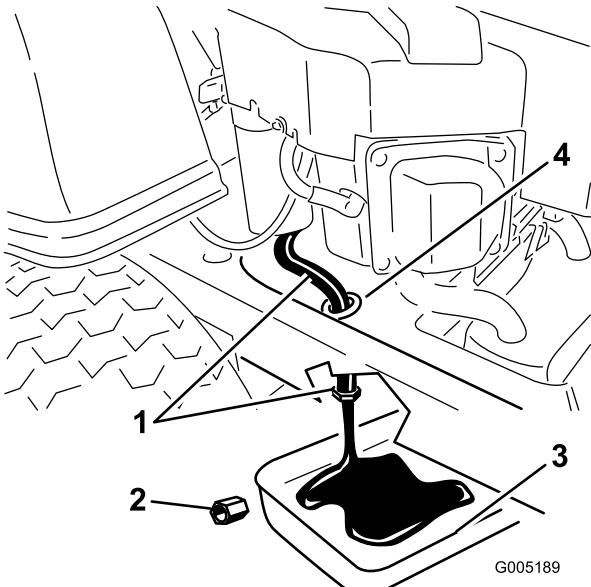

Figure 30
5. Locate the oil drain hose on the left side of the engine. The drain plug is attached to a drain hose routed through a drain hole in the machine frame (Figure 30). Clean the area around the oil drain plug cap and the oil drain hose.
6. Place a pan underneath machine directly below the oil drain hose as shown in Figure 30.
7. Using two wrenches (one to hold the oil drain hose and one to loosen the plug), remove the oil drain plug (Figure 30).
13. When oil has drained completely, install the oil drain plug. Tighten the plug to 14 N·m (125 in-lb) torque. Wipe up any excess oil (Figure 30).